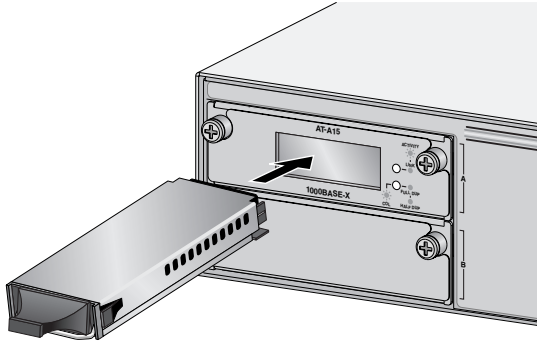

Figure 4 Installing a GBIC Module
3. Slide the new GBIC module into the expansion slot and push it in until it clicks. Refer to Figure 4.